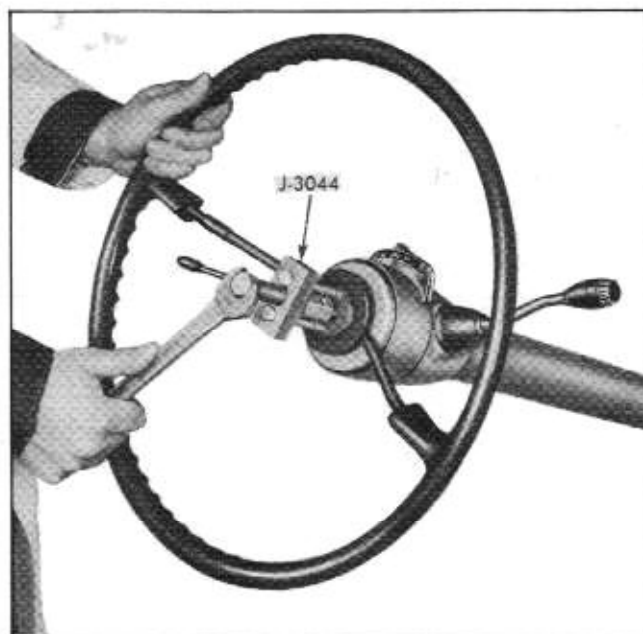

Fig. 9-6 Removing Steering Wheel
3. Remove steering wheel using puller J-3044 (Fig. 9-6).